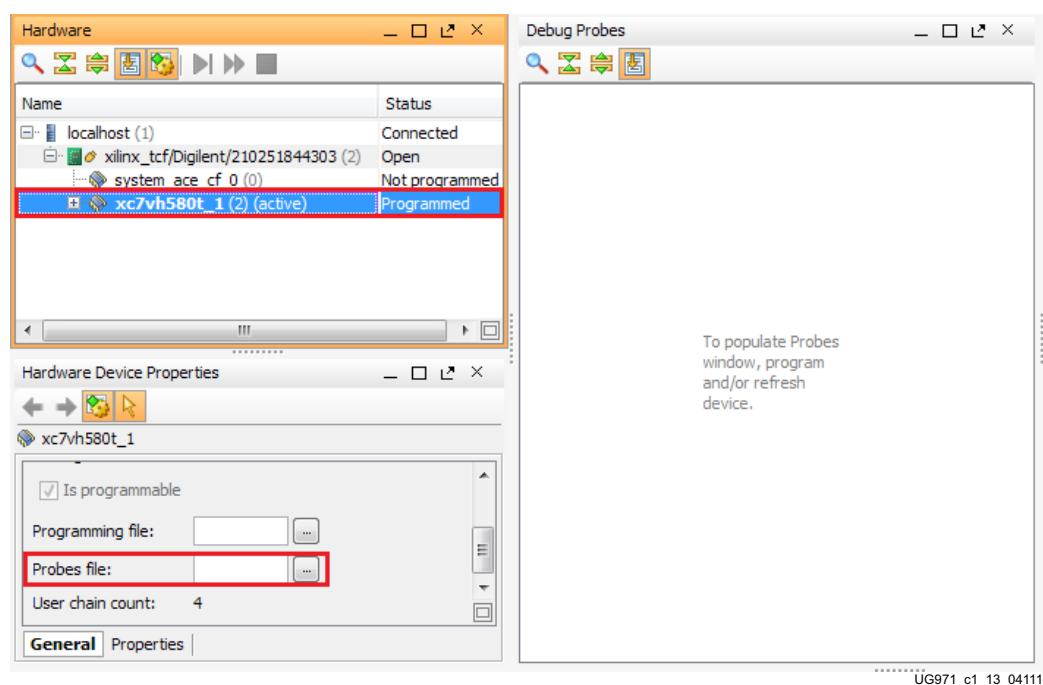

Figure 1-13: Adding the Probes File
1. The Vivado Design Suite Hardware window shows the System ACE tool and the XC7VH580T devices. The XC7VH580T device is reported as programmed. In the Hardware Device Properties window, enter the file path to the Q115 Probes file (vc7222_ibert_q115_debug_nets.ltx) in the extracted IBERT files from the SD card (Figure 1-13).